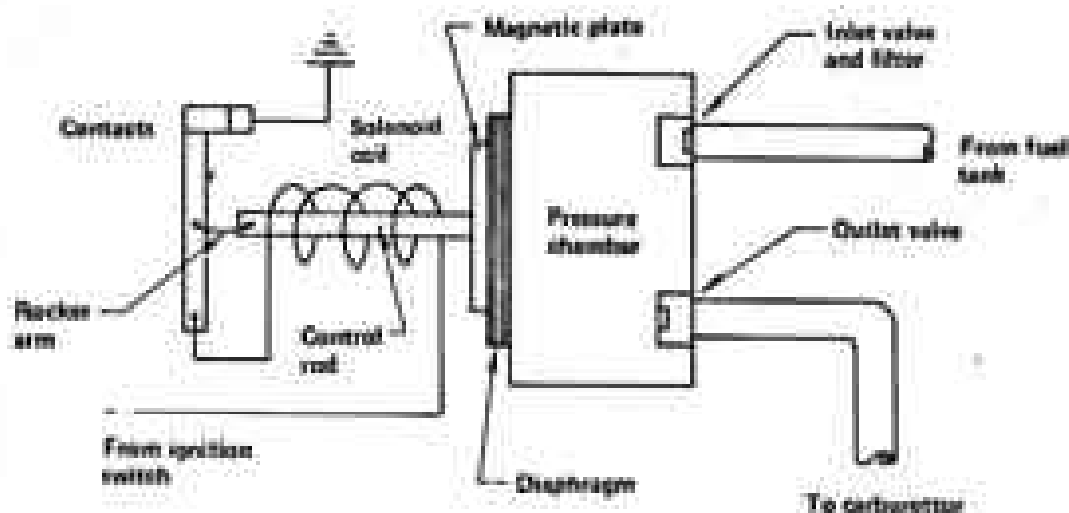

FIG. 103 ELECTRIC FUEL PUMP CONSTRUCTION
The construction of a typical electric fuel pump is represented diagrammatically in Figure 103.
- (2) The operation of a typical electric fuel pump can be described with reference to Figure 103.